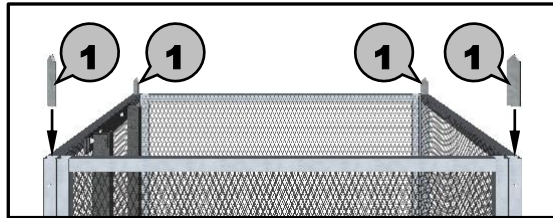

Figure 1
- 1** Drop one steel stacking pin into the four outside corner tubes of bottom and middle sections. (see Figures 1, 2, & 3)